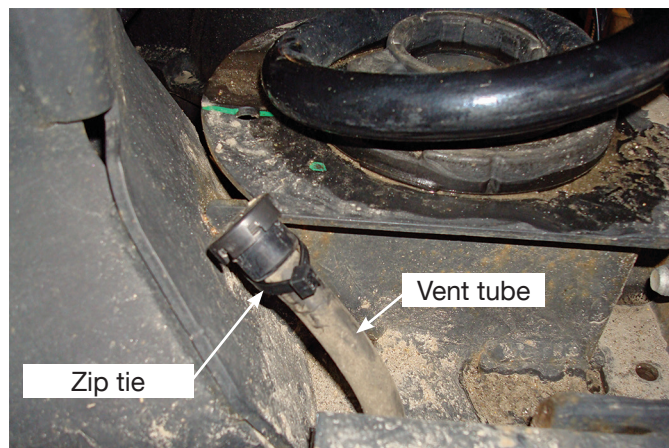

fig. 5
3. Insert the zip tie into the small hole in the lower coil spring seat, then around the vent tube and snug the zip tie enough to angle the tube out of the way (Fig. 5).